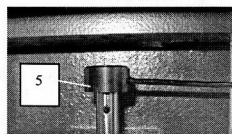

Fig. 5
Using the hexagon wrench supplied, slacken the clamping bush (5). (Fig. 5)